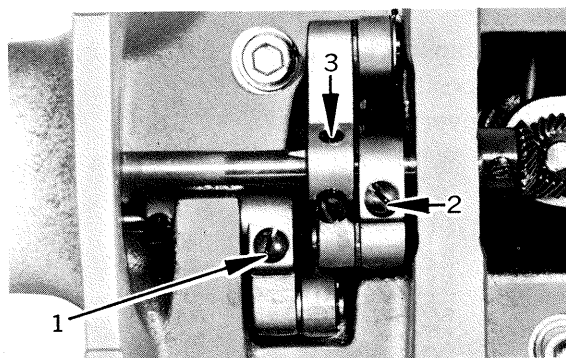
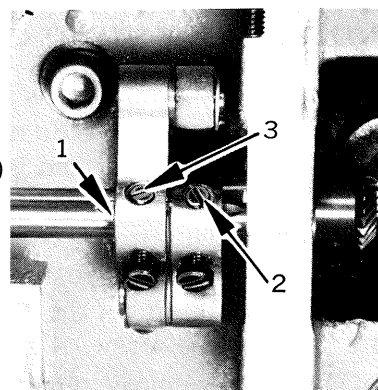

Fig. 14 277R
Fig. 16 277RFS
2. Loosen the set screw (1, Fig. 14)
1. Lay down the machine head toward the other side, and check that the screw (2, Fig. 16) is securely tightened on the V ditch (1, Fig. 16).
1. Lay down the machine head toward the other side, and loosen the screw (2, Fig. 14)
1. Lay down the machine head toward the other side, and check the screw (3, Fig. 14, Fig. 16) is securely tightened on the V ditch (1, Fig. 16).